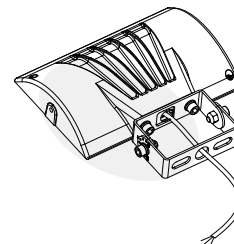

figure 2.3
Step 4: Tighten the other bracket with screws. (figure 2.3)